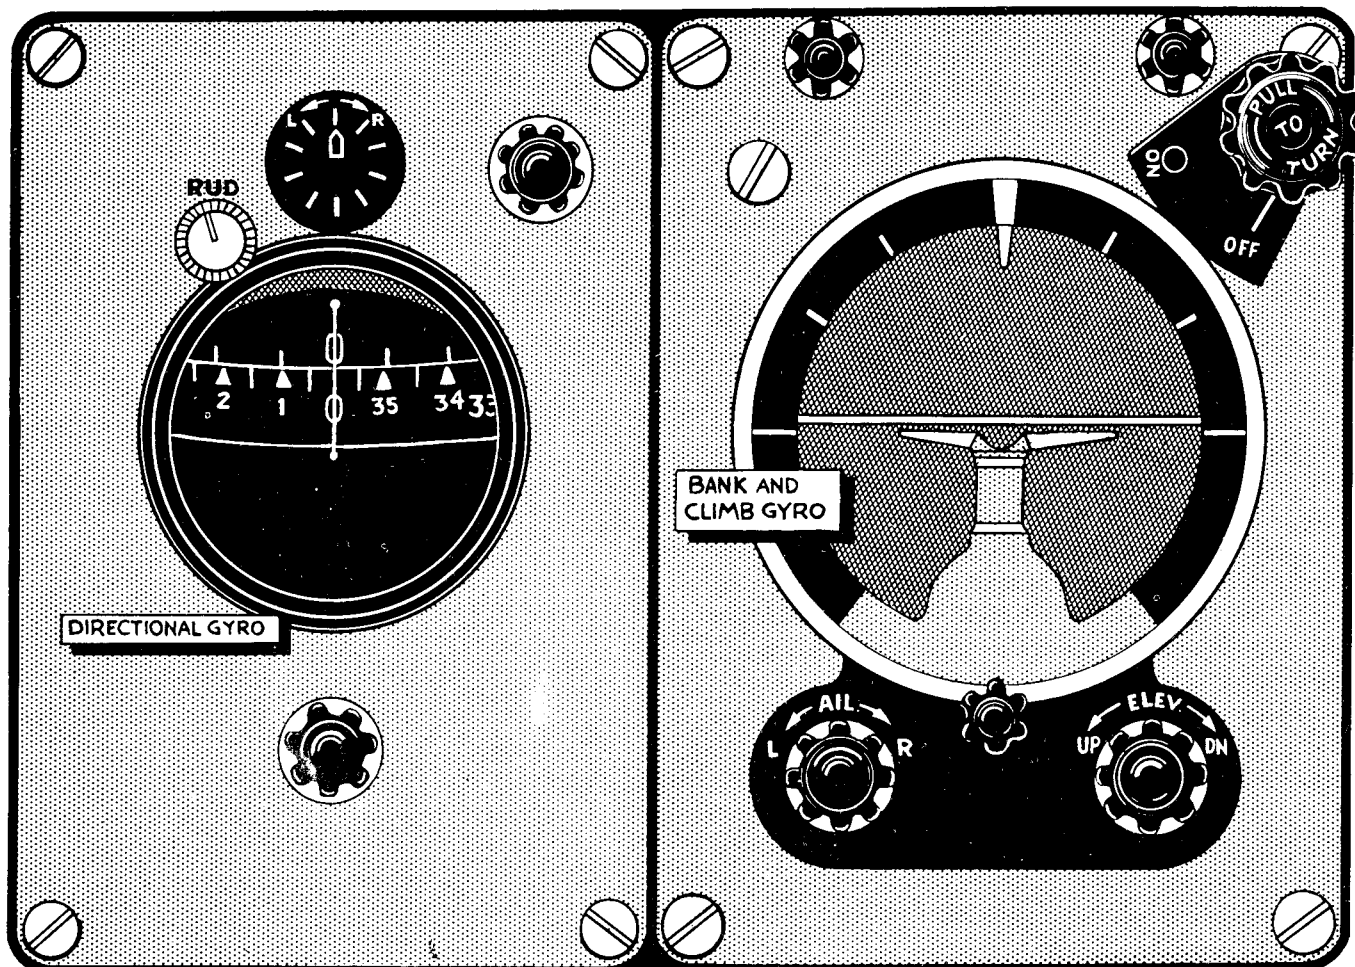

Figure 34 — Auto Pilot Controls
(1) **GENERAL.**—The automatic pilot is hydraulically operated. The controls for it consist of a directional gyro and a bank and climb gyro mounted on the lower instrument panel (see figure 4), and a control valve (see figure 34) just below the lower instrument panel.
(3) **BANK AND CLIMB GYRO.**—This instrument is located on the lower instrument panel, to the right of the centerline of the airplane (see figure 34). It contains an artificial horizon and a miniature airplane, and is equipped with the following dials:
(d) **CAGING KNOB.**—Upper right corner of instrument (see figure 34). Pull aft and turn fully clockwise to "cage" or lock the instrument.
(4) **DIRECTIONAL GYRO.**—This instrument is located at the bottom of the instrument (see figure the airplane (see figure 34). It contains two compass cards, one of which remains fixed in space while the other turns with the airplane. The former is called the "directional card" and is the bottom card in the instrument. The latter is the top card and is called the "reference card." (To the pilot this is the card which remains fixed, while the other seems to turn.)
**JUSTING DIALS.**—Located at the top of the instrument (see figure 34). Rotate clockwise to increase "signal strength" or sensitiveness of the instrument.
(b) **AILERON AND ELEVATOR TRIM ADJUSTING KNOBS.**—At bottom of instrument (see figure 34). Rotate aileron knob in direction of desired wing heaviness. Rotate elevator knob clockwise for dive; counterclockwise for climb.
(c) **ADJUSTING KNOB FOR MINIATURE AIRPLANE.**—At bottom of instrument (see figure 34); turn clockwise to move airplane up.
(a) **DIRECTIONAL CARD ADJUSTING DIAL.**—Located at the bottom of the instrument (see figure 34). Rotate to turn the directional card.
(b) **REFERENCE CARD ADJUSTING DIAL.**—In the upper right corner of the instrument (see figure 34). Rotate to turn the reference card.
(c) **SIGNAL ADJUSTING KNOB.**—Located in the upper left corner of the directional gyro (see figure 34). Turn clockwise to increase "signal strength" or sensitiveness of the instrument.